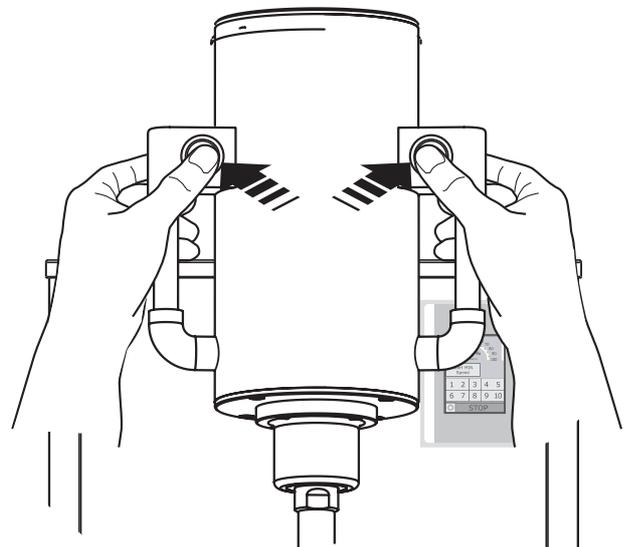

**figure 7**
**Observe the minimum and maximum levels (fig.7)**